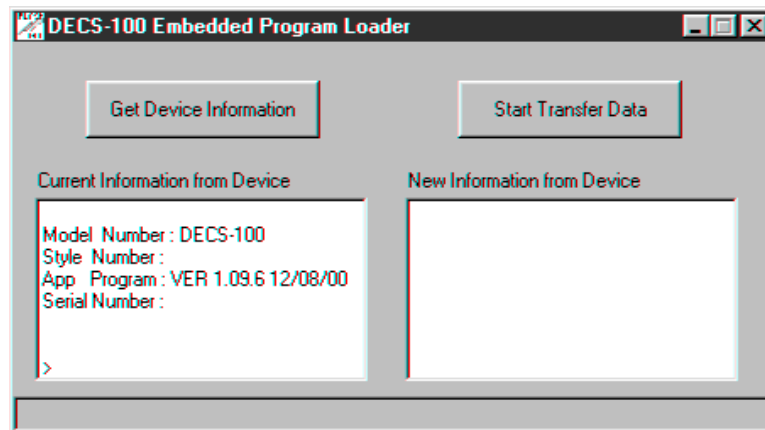

Figure 5-23. Retrieved DECS-100 Information
4. Click the **Get Device Information** button. The DECS-100 Embedded Program Loader retrieves and displays the DECS-100 model number, style number, serial number, and application program version number in the left-hand column (Figure 5-23).